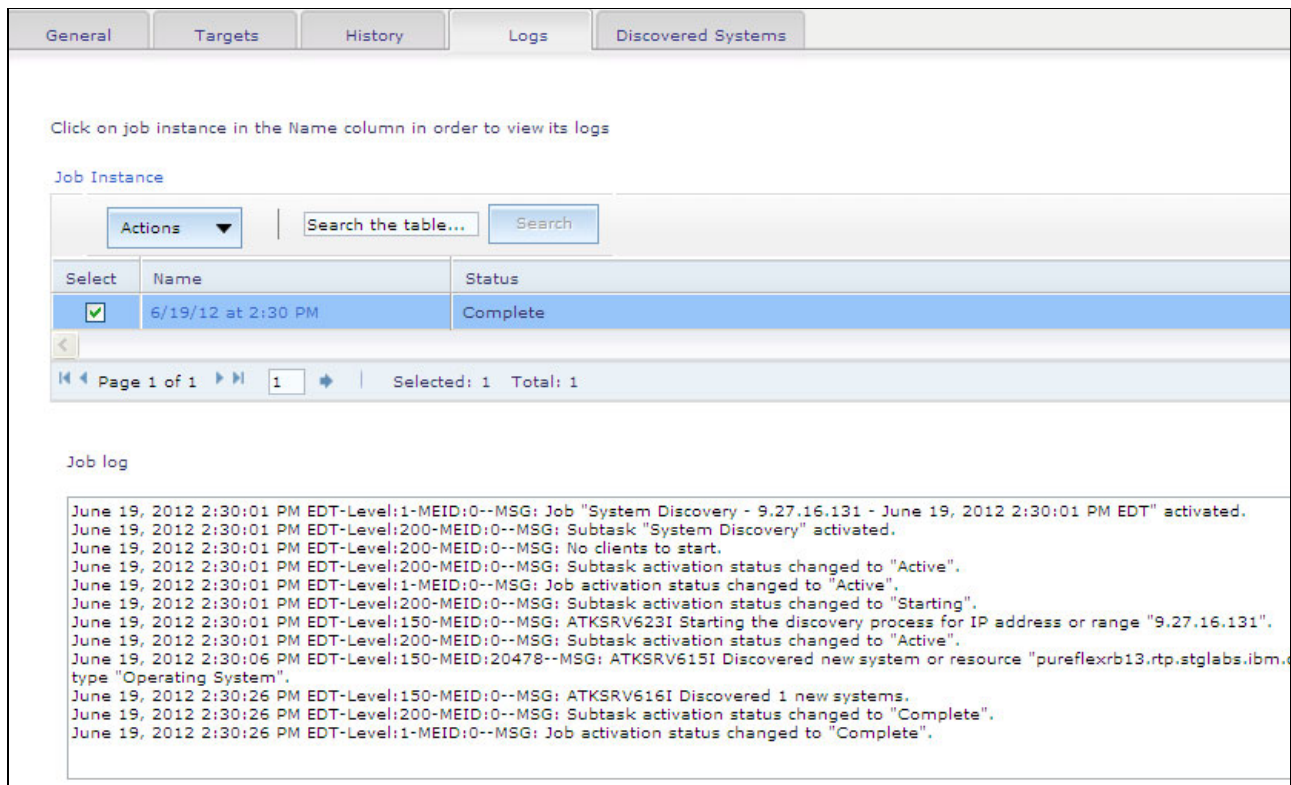

Figure 10-40 Checking the log
5. Check the logs as shown in Figure 10-40.